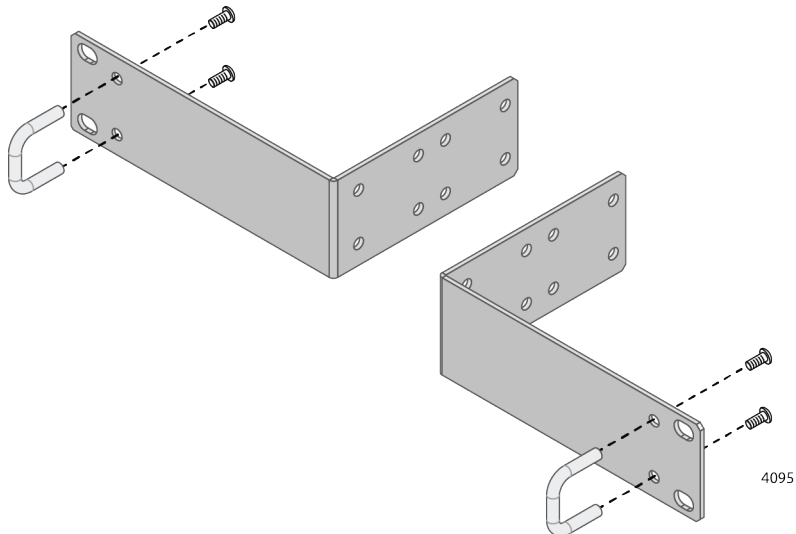

Figure 19. Attaching the Handles to the Brackets
3. Attach the handles to the brackets as shown in Figure 19.